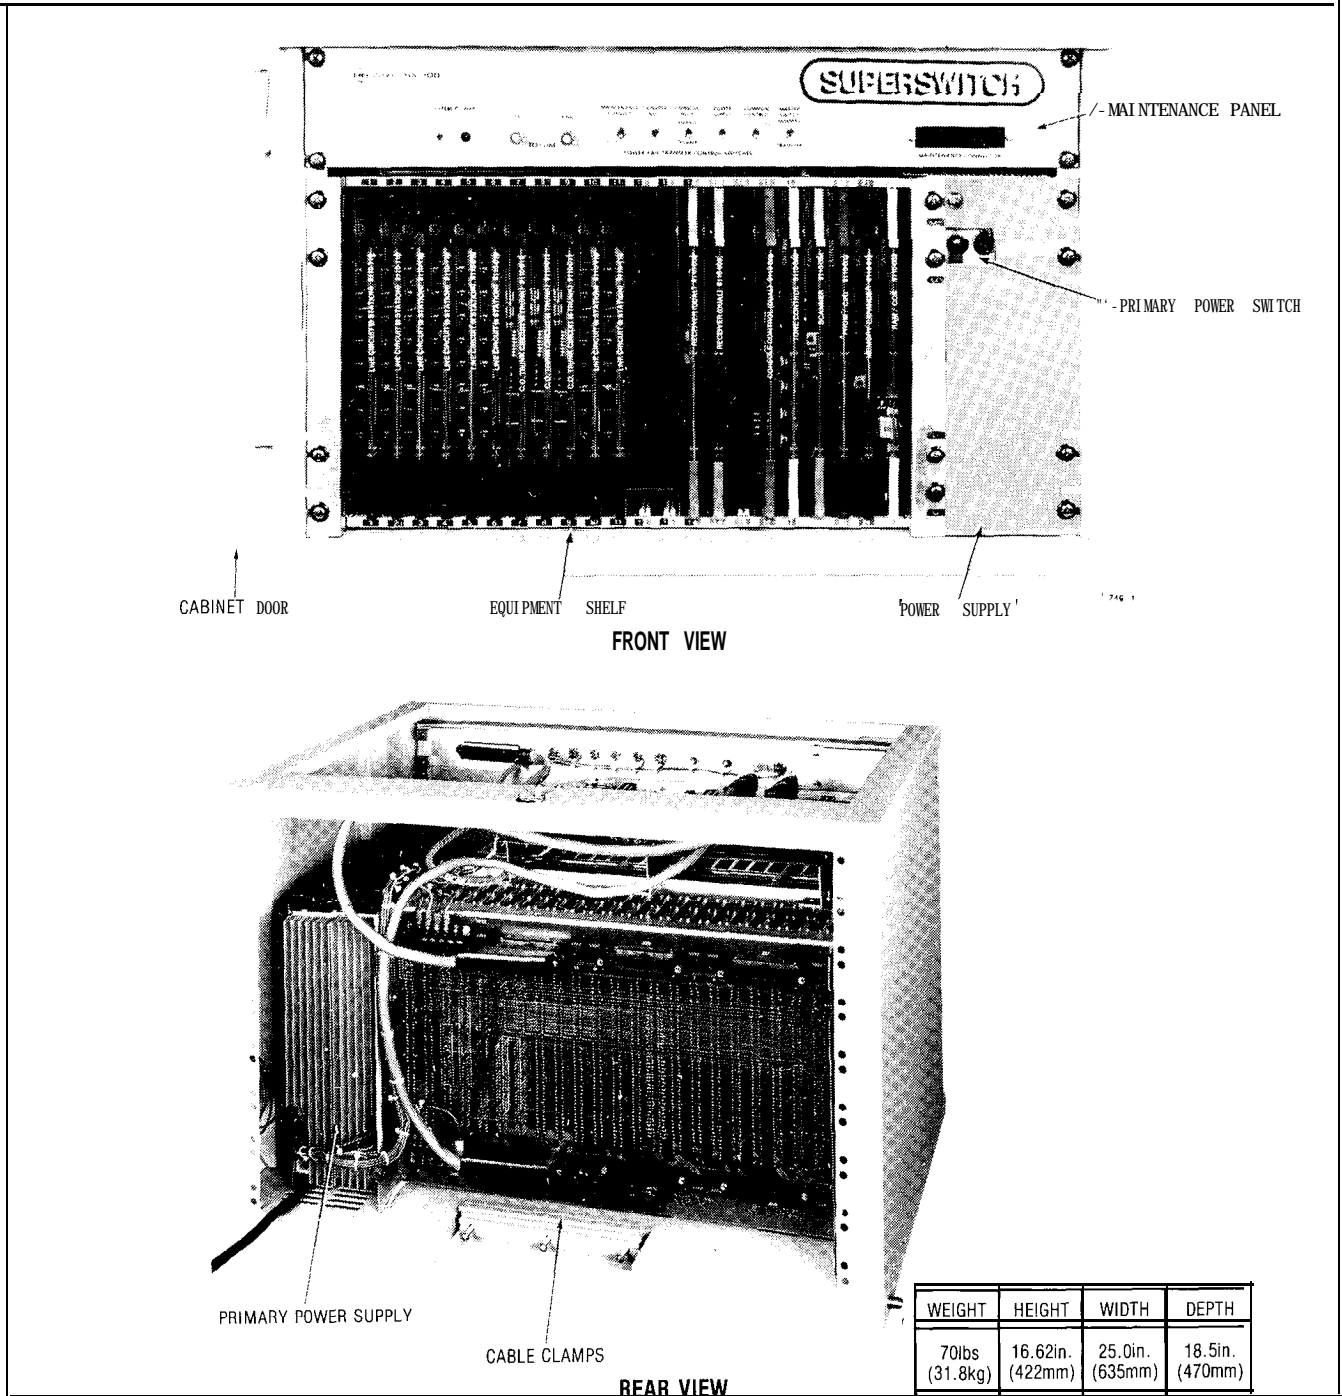

Fig. 3-1 Equipment Cabinet
3.02 The SX-100 equipment cabinet (See Fig. 3-1) is of metal construction and has the following dimensions: Height 16.62in. (422mm), width 25in. (635mm), and depth 18.5in. (470mm). The weight of a fully equipped PABX is approximately 701 bs. (31.8kg).
4.01 Fig. 3-1 shows the SX-100 cabinet which incorporates the equipment shelf, maintenance panel and primary power supply mounted from the front of the cabinet.